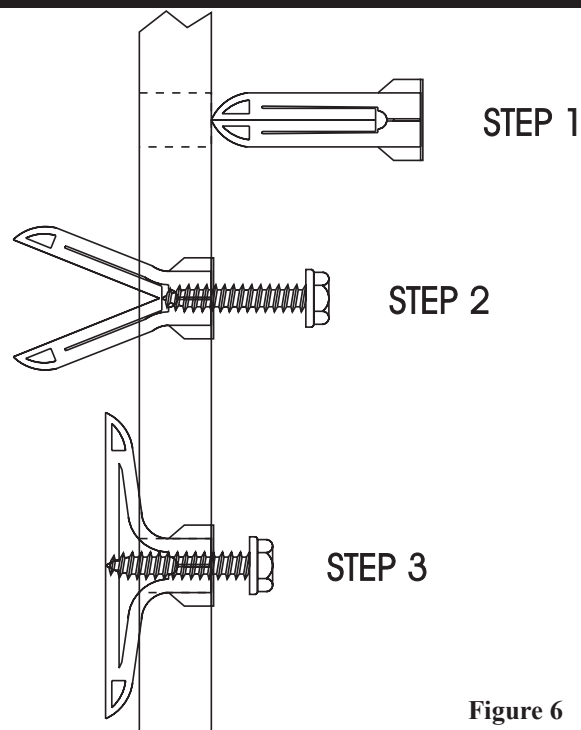

Figure 6
1. After locating mounting holes, drill four (4) 5/16" diameter holes into the wall.
2. Insert four (4) plastic expansion anchors provided into the holes.
3. Tighten four (4) #10 x 1" screws provided into the plastic expansion anchors (See Figure 6).